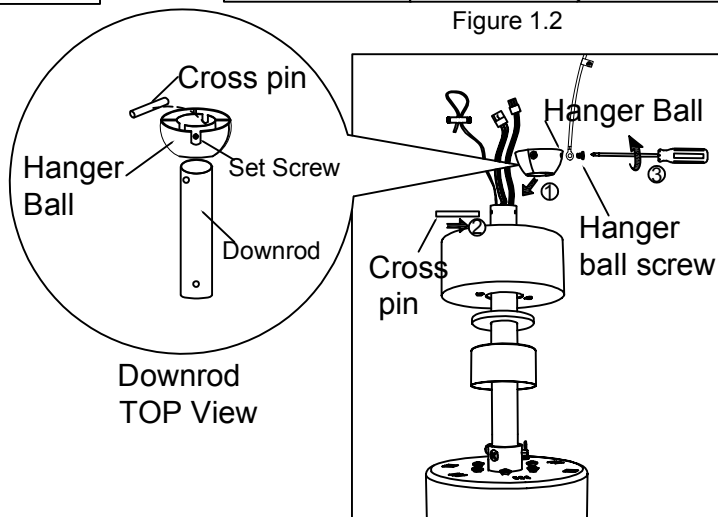

Figure 1.4
- Attach the hanger ball to the downrod with the wires running through it. Position the pin through the two holes of the downrod and align the hanger ball so that the pin is caught in the groove at the top of the hanger ball. Pull the hanger ball tightly onto the pin. Securely tighten the hanger ball screws inside the hanger ball. A loose hanger ball screw may cause the fan to wobble. (Figure 1.4)